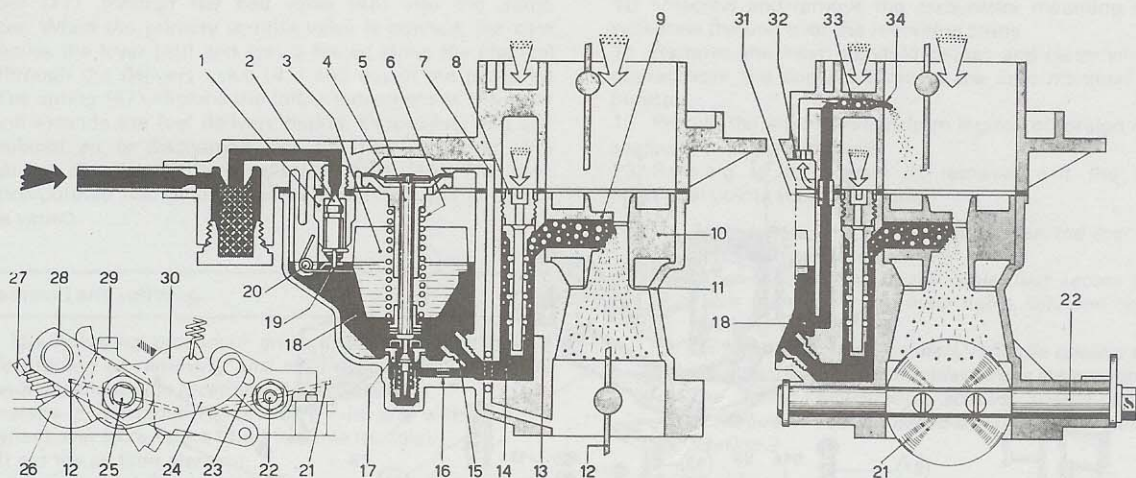

Fig. 7.6 Carburettor normal phase (Sec 3)
main fuel supply circuit is brought into action. Refer to Fig. 7.6 and note that fuel from the float chamber (18) passes through the main jets (15) to the emulsion tube wells (14). At the same time air is drawn through the air corrector jets (8), through the holes in the emulsion tubes (13) and emulsifies the fuel which is then drawn through the nozzles (9) and auxiliary venturis (10). The mixture then mixes with the main air supply as it is drawn